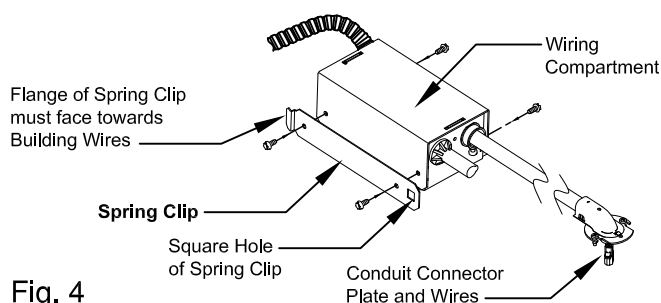

Fig. 4
5. Remove (4) screws at the wiring compartment and remove cover. Remove appropriate knockouts and make the proper splices at the wiring compartment, per applicable codes. Wiring diagram is located inside the wiring compartment cover. **IMPORTANT: DO NOT DISCARD THE SPRING CLIP! See Fig. 4**
6. Re-assemble the wiring compartment. Ensure no wiring is pinched between the cover and base of the compartment. Spring clip must be assembled onto wiring compartment as shown. **See Fig. 4**